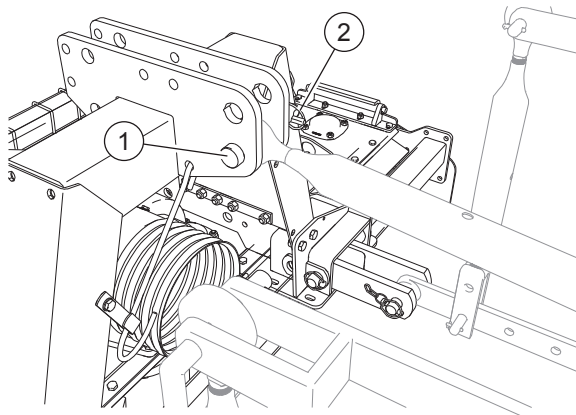

FIG. 23
- Move the tie-rod of the power-lift to the three-point hitch ("Fig. 23"). Set the tie rod so that the machine stays on the ground. Insert the attachment pin (1). Lock the pin with the trigger split pin (2), part of standard equipment.